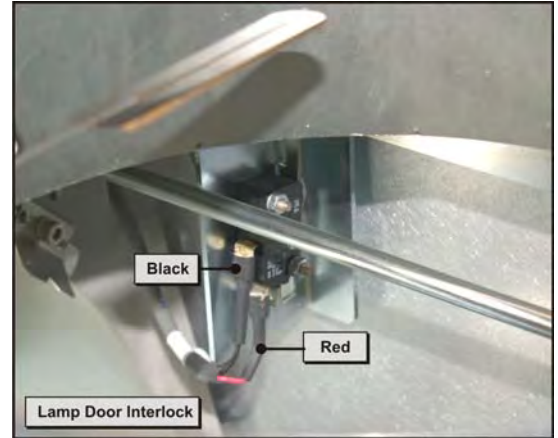

Figure 5-69 Lamp Door Interlock
3. Disconnect the red and black leads from the lamp door interlock. **NOTE:** Red lead to “No” label on interlock and black lead to “COM” label. (Figure 5-69)